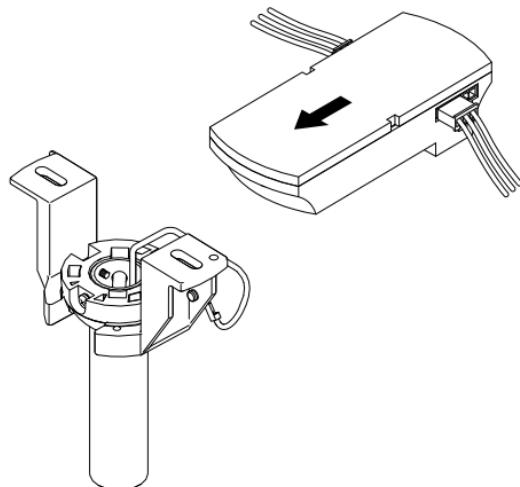

Fig. 13
9. Carefully insert the Remote Receiver above the hanger ball in the remainder spacing in the mounting bracket. Take care not to damage or loosen any of the wiring. (**Fig. 13**)